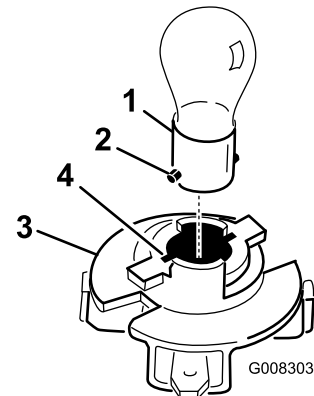

Figure 32
8. Push and rotate the bulb counterclockwise about 1/4 turn until it stops and remove the bulb from the bulb holder (Figure 32).
1. Align the metal pins on the base of the bulb with the slots in the bulb holder and insert the base into the holder (Figure 32).
3. Align the tabs on the bulb holder (Figure 32) with the slots in the reflector.